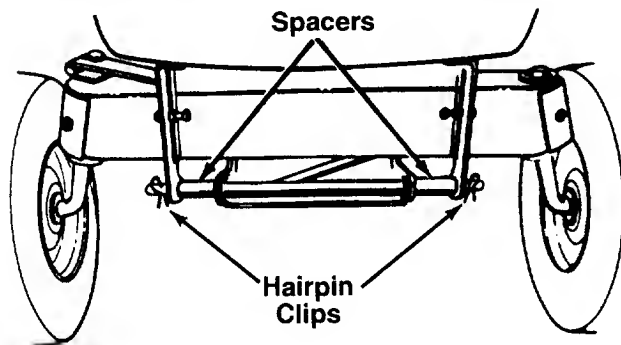

FIGURE 6A.
7. Disassemble the front cross bar from the tractor by removing two hairpin clips. Use the cross bar to attach the deck stabilizers, the diagonal brace and two spacers to the tractor frame, using the rear set of holes. Secure with the two hairpin clips just removed. See figure 6A.